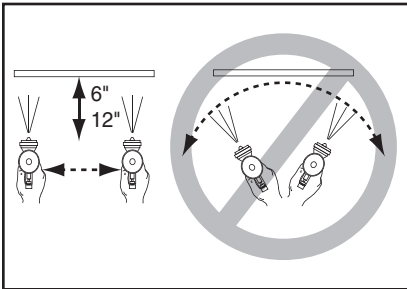

Figure 5. Spray technique.
9. Keep the gun tip perpendicular, parallel and 6"-12" from the work at all times when spraying, as shown in **Figure 5**. Do not allow your wrist to bend. This will cause the gun to arc across the surface and distribute the material unevenly, possibly creating sags and dry spots.